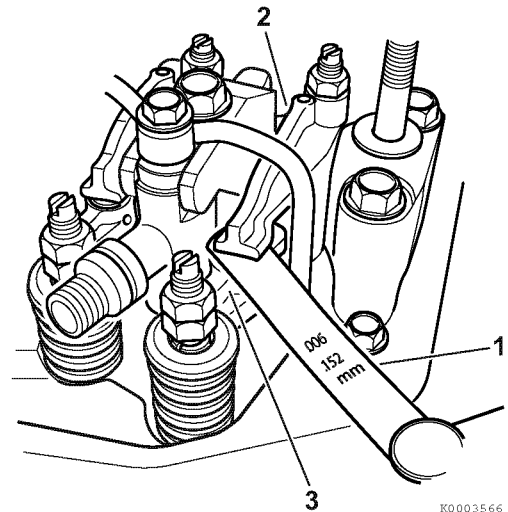

Figure 6-85
8. To adjust the actual valve clearance between the rocker arm and the valve bridge, insert a feeler gauge (1, **Figure 6-85**) of the correct thickness (See *Adjustment Specifications on page 6-4*) between the rocker arm (2, **Figure 6-85**) and valve bridge (3, **Figure 6-85**). Record the results and use this value as an indication of wear.